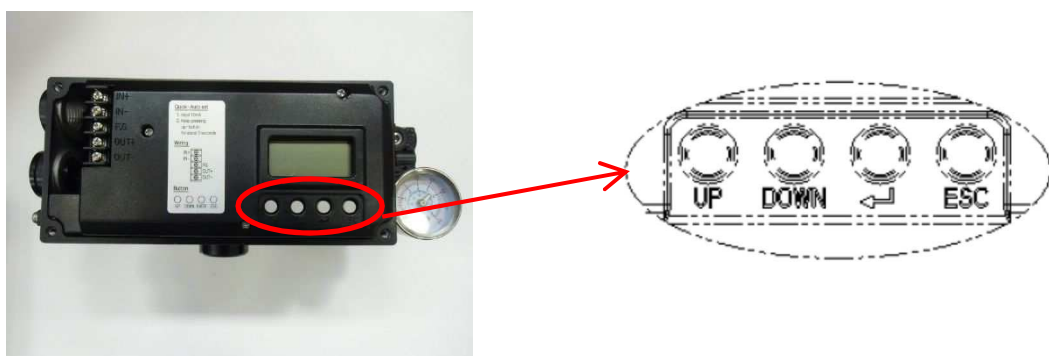

Fig. 12
③ Input 12mA DC to positioner. Auto calibration cannot be conducted with any other input signal. Press and hold [] (hereafter ENTER key) for approx. 3 seconds. [AUTO CAL] is shown on the display. Press ENTER key once, and [AUTO1] appears. Press ENTER key and auto-calibration starts. (Fig.12) Auto-calibration requires around 2-3 minutes depending on the size. [Complete] is shown when finished. Press ENTER key, and then positioner is put into usual operation mode.